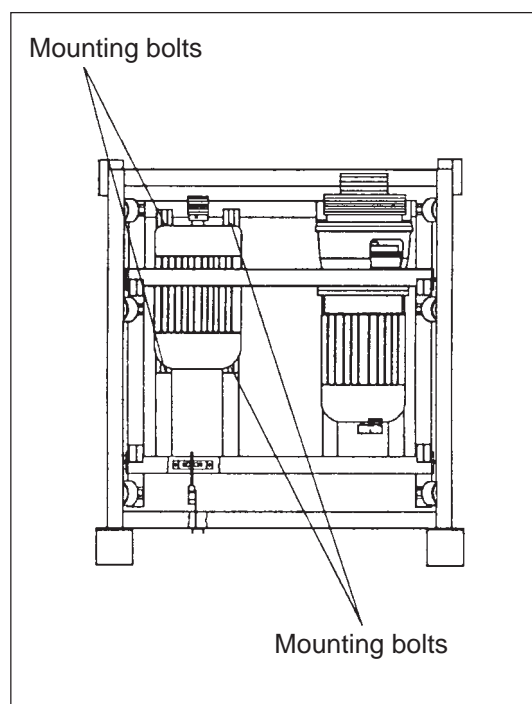

Figure 7. Wash motor – mounting
4. Remove the four motor mount bolts (Figure 7).